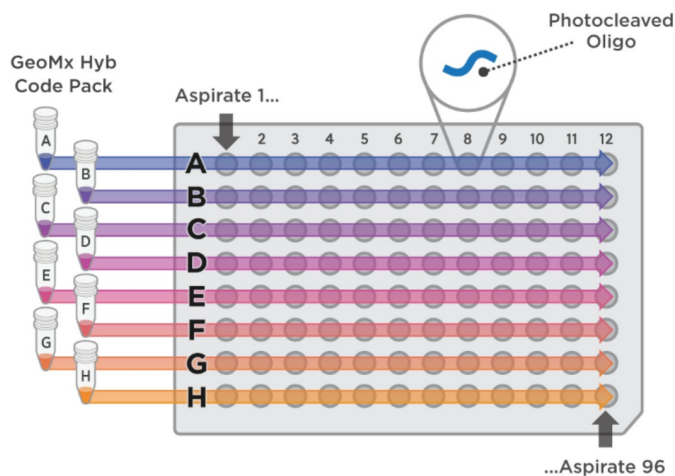

Figure 18: Setting up the hybridization plate
2. Pipette **8 μL** of each **GeoMx Hyb Code Master Mix** into each of the 12 wells of the appropriate row of the hybridization plate, matching GeoMx Hyb Code A–H to the respective plate row (see Figure 18).